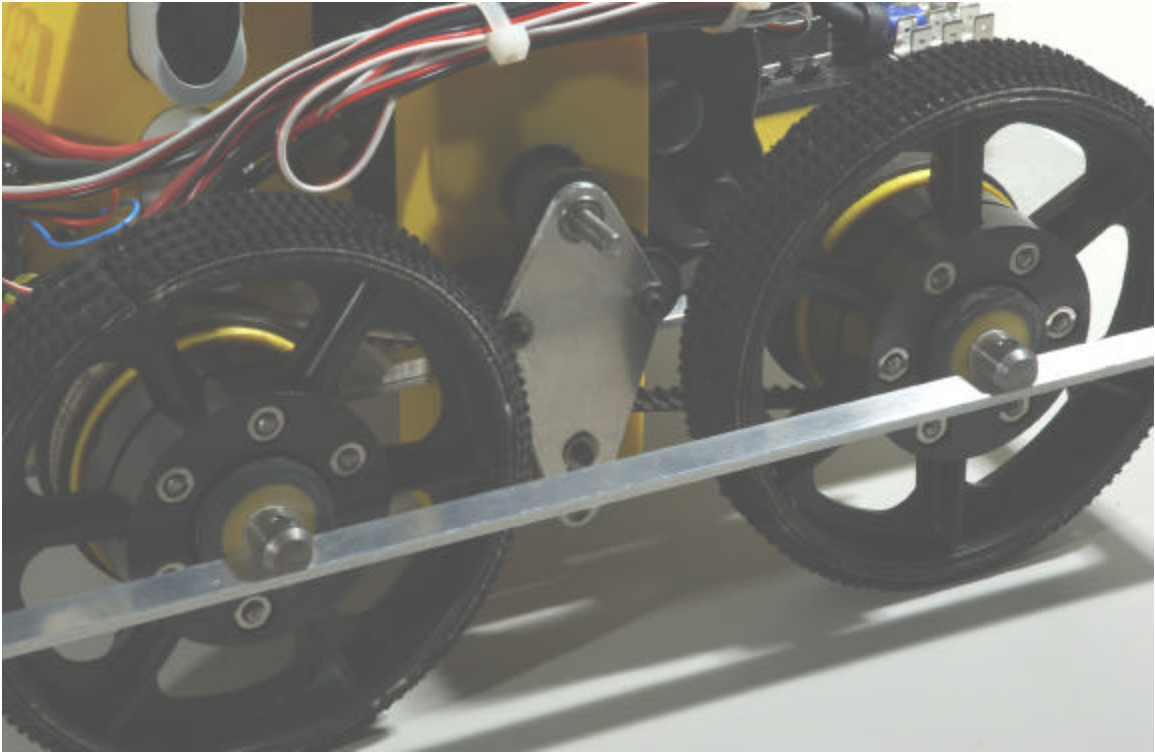

Fig 1
- Four wheel tank differential drive (Fig 1)